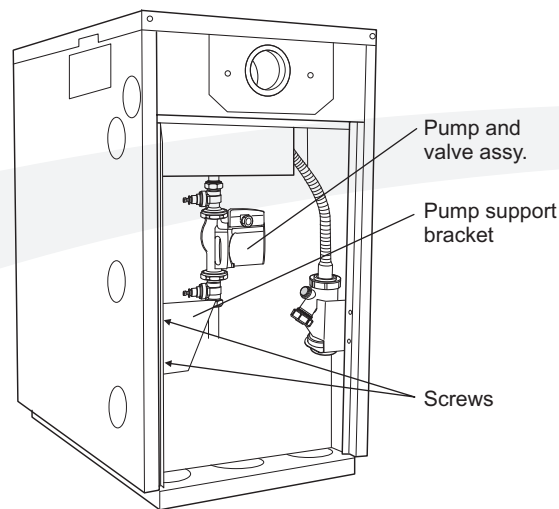

Figure 7-4: 15/21 rear view
10. Fit the pump support bracket, with the screws provided, using the two holes in the left hand side panel flange (viewed from rear of boiler as shown in Figure 7-4).
11. Fit the pump/pump valve assembly to the end of the pressure relief valve/auto air vent manifold pipe. Ensure that the pump shaft is horizontal and the pump motor is facing towards the right side of the boiler (viewed from the rear as shown in Figure 7-4). The flow arrow on the body of the pump must face in the required direction of flow – away from the boiler flow connection – downwards in this case.